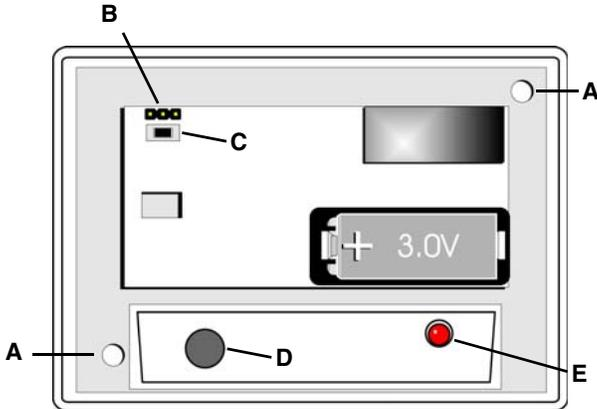

Figure 1 FA207 Components
2. Install the battery (Fig. 1).
3. Press the **Reset** button to initialize the transmitter (Fig. 1).
1. Remove the programming header jumper to test the transmitter. This should cause a tamper fault (Fig. 1).
2. Clap your hands loudly in front of the sensor to test the microphone. The LED will blink twice, but the alarm will not trip (Fig. 1).